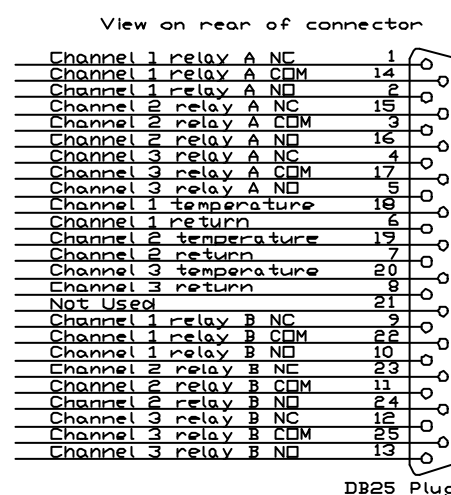

Figure 7 Alarm Connector
- 3.11.2 Figure 7 shows the connector pin identification.